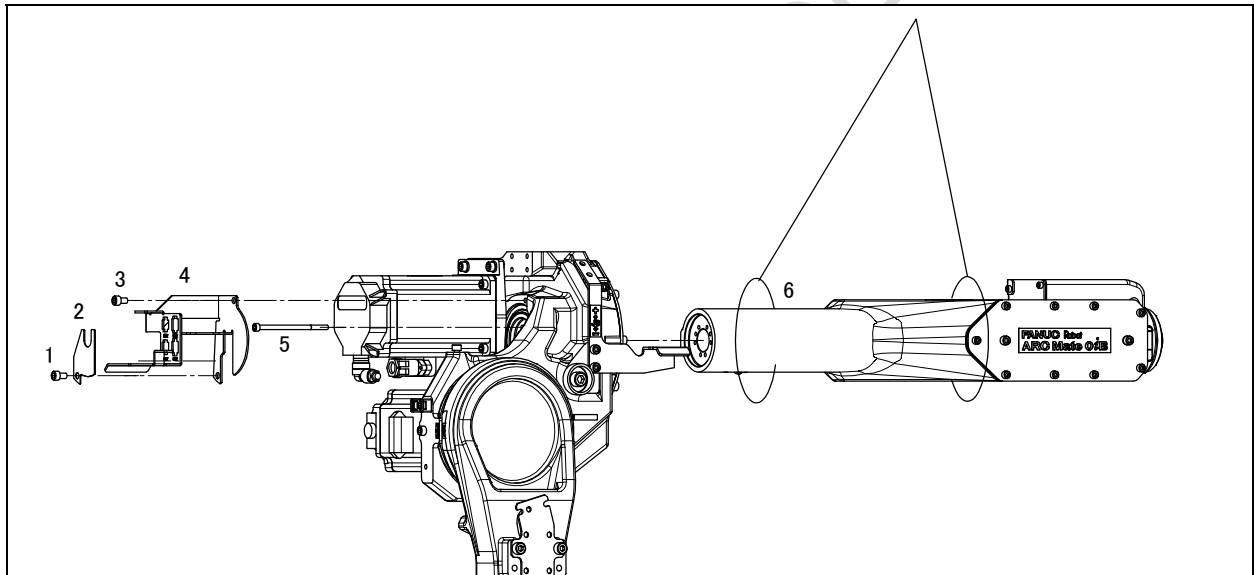

Fig.4.9 (a) Replacing the J4-axis gearbox (1/2)
- 5 Wrap and hang slings in two places of the J3 arm referring to Fig.4.9 (a).
- 8 Remove bolts (1) and the plate (2).
- 9 Remove bolts (3) and the clamp (4).
- 10 Remove bolts (5).